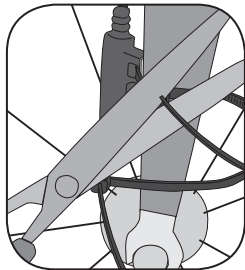

Figure 10- Trim excess nylon tie length
5. Tighten the nylon ties and trim the excess length (Figure 10).